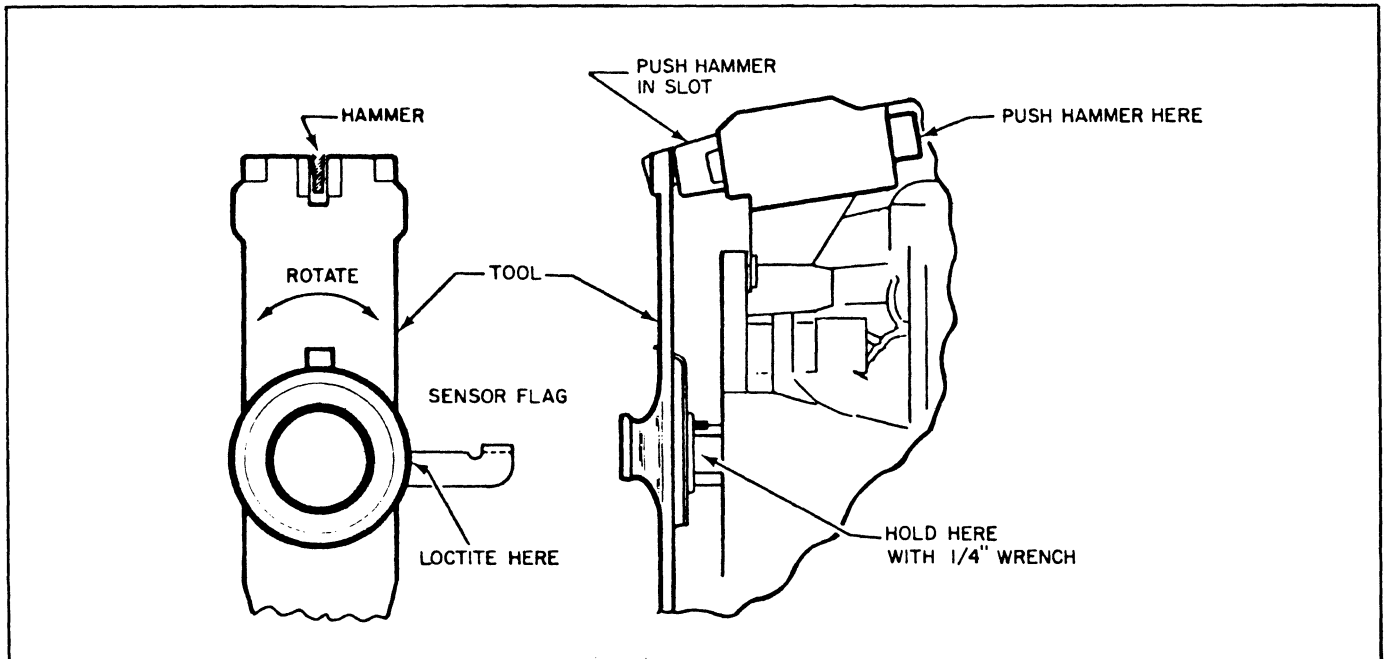

Figure 3-13. Printwheel-to-Hammer Alignment
3.4.1.4.2 Printwheel-to-Hammer. Refer to Figure 3-13. Proceed as follows:
Refer to Figure 3-13. Manually push the hammer forward lightly, until its face enters Hammer Slot B2 on the tool. If the hammer slides easily into the slot without contacting the sides of the slot, printwheel-to-hammer alignment is correct; remove the carriage home sensor block and skip to Step 5. If the hammer face contacts the tool surface, continue with this procedure.